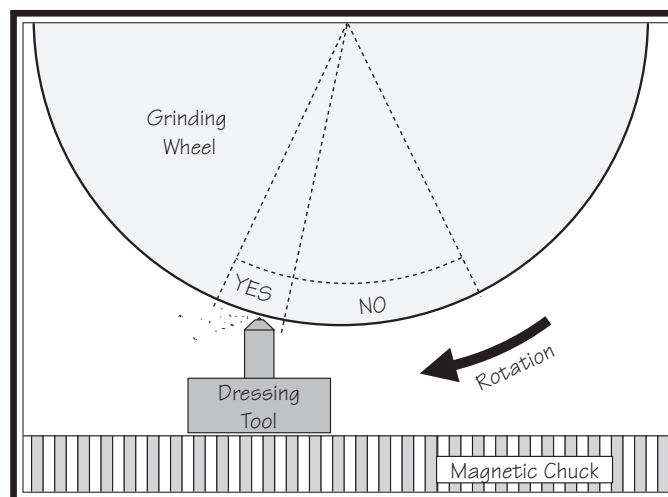

Figure 31. Safe tool positioning for wheel dressing.
Positioning is critical for the dressing tool so you will not shatter the diamond or have poor dressing results. The dressing tool must be positioned in the trailing zone of the wheel, as shown in **Figure 31**, for best results and safe use. If the tool is positioned on the leading side of the wheel, the diamond will be shattered or even grabbed by the wheel and drawn under the grinding wheel, causing severe damage or injury.
3. Position the tip of the dressing tool at the trailing side of the wheel, as shown in **Figure 31**, and move the table inward until the diamond tip of the dressing tool slightly touches the edge of the grinding wheel. Verify by manually rotating the wheel and listening for contact.